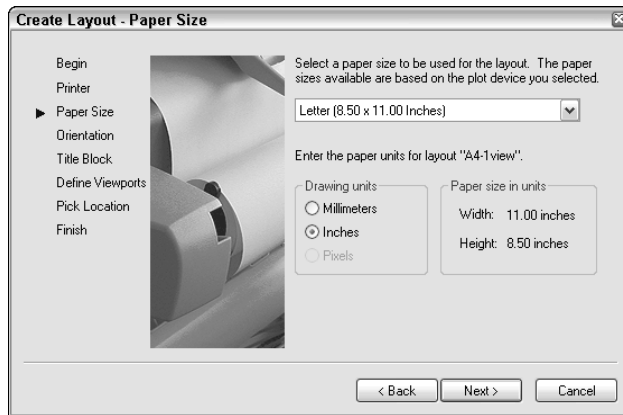

Figure 17-3: The Paper Size screen of the Layout Wizard
4. On the third screen, shown in Figure 17-3, specify a paper size and drawing units and then click Next.